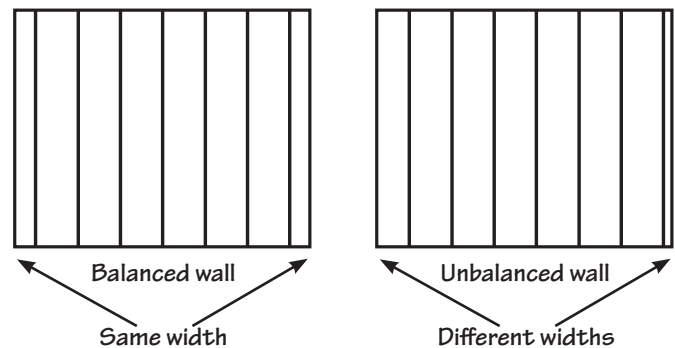

Figure 55.
- To create a balanced appearance (Fig. 55), divide the length of the wall by the exposure of the vertical panel to be used. For example, if the wall requires 20 full panels plus an additional 8" (203mm), then the first and last pieces installed would be cut to a new width of 4" (102mm). Make sure to allow for proper depth in the receiving channels of the accessories at both ends when measuring.